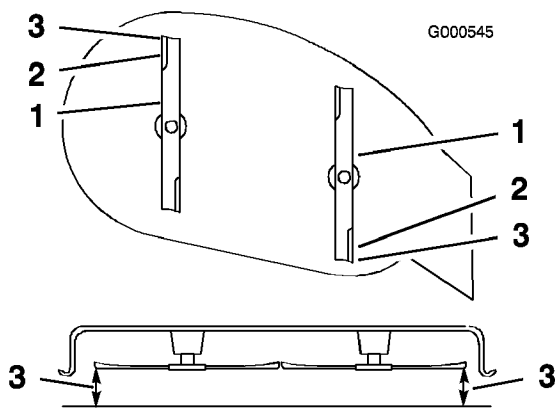

Figure 44
- Set the height-of-cut at position **D** [3 inch (76 mm)] and carefully rotate the blades so they are facing front to rear (Figure 44).
- Measure from the tip of the front blade to the flat surface and the tip of the rear blade to the flat surface (Figure 44). If the front blade tip is not 1/16-5/16 inch (1.6-7.9 mm) lower than the rear blade tip, adjust the front locknuts.